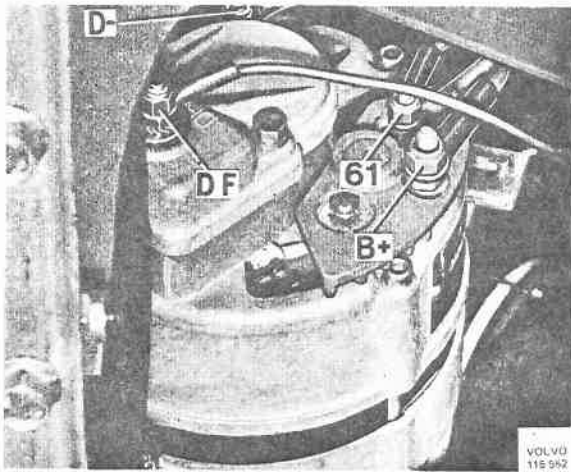

Fig. 32-27. Alternator cable terminals
6. Tighten the bolt on the top cover and connect up the cables to their terminals, Fig. 32-27.